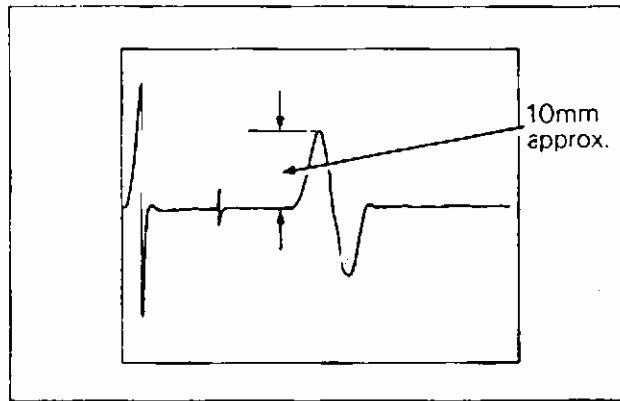

Fig. 6
- 4.5** Turn 'Fine Gain' control fully clockwise, then using the 'Coarse Gain' control adjust the height of the fault pulse to approximately 10mm, (see Fig 6).